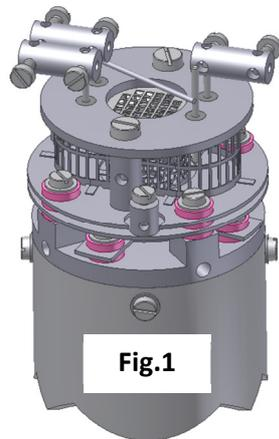

Fig.1
2. The filaments are located on the very top of the analyser, retained by two M2 x4 pan head screws. The electrical connections are made via three barrel connectors, one to each filament and one to filament common, see Fig.1.